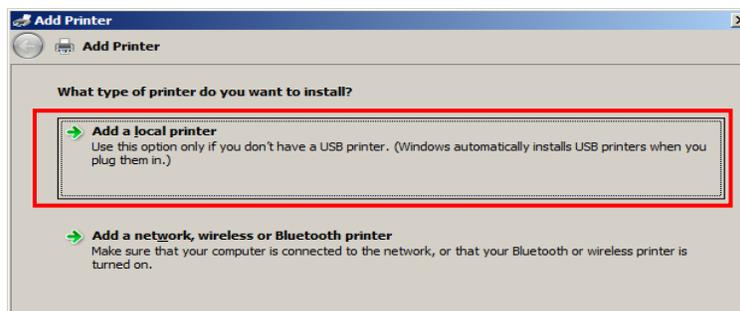

Figure 10-20 - Add a non plug-n-play local printer
- 4) The Add Printer dialogue will start as shown below in Figure 10-20.
- 5) Select “**Add a local printer**”. (Figure 10-20)